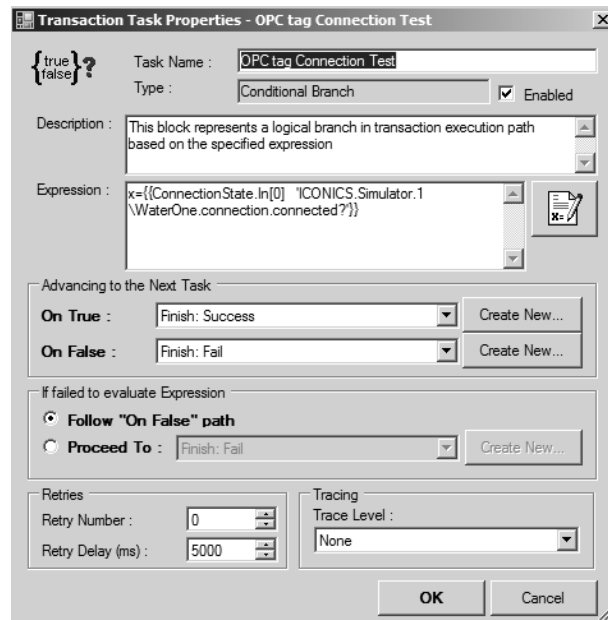

Figure L4.4 - Transaction Task Properties
- Click on OK and the **Transaction Task Properties** will look like Figure L4.4. Click on OK to return to the transaction diagram.